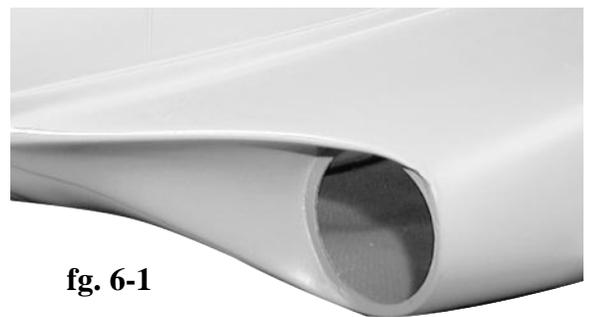

fig. 6-1
7. Cut the clear Jet exhaust off and glue on to back part of main body. See Fig.6-1